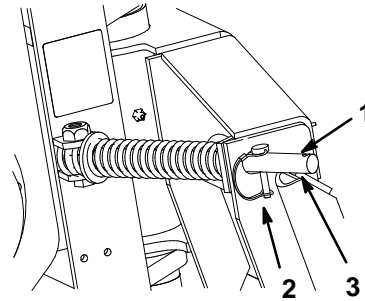

Figure 6
- Move the lynch pins to the outside holes on the spring rods to allow the plow to move from side to side (Fig. 6).
1. Move the lynch pins to the inside holes on the spring rods to prevent side to side movement (Fig. 6).